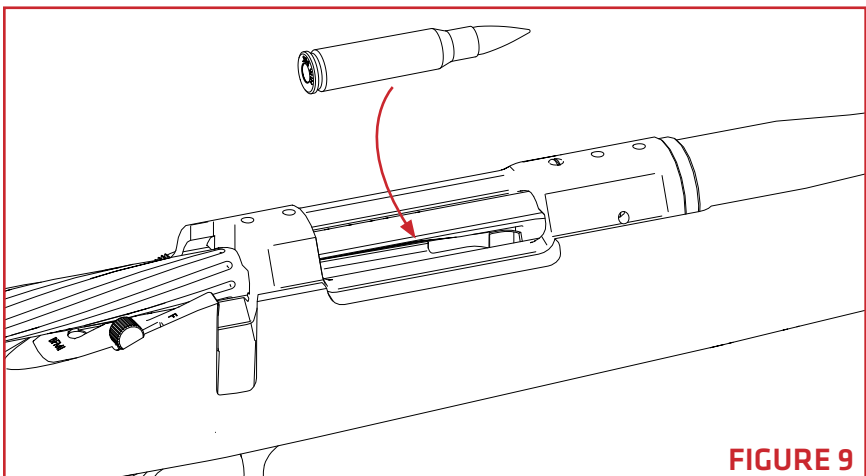

FIGURE 9
3. Insert the cartridges by placing them on top of the follower (or next cartridge) and pressing down until the cartridge snaps into place (**FIGURE 9**). Ensure the cartridge seats fully rearward in the magazine. Failure to do so may impede further loading or function.